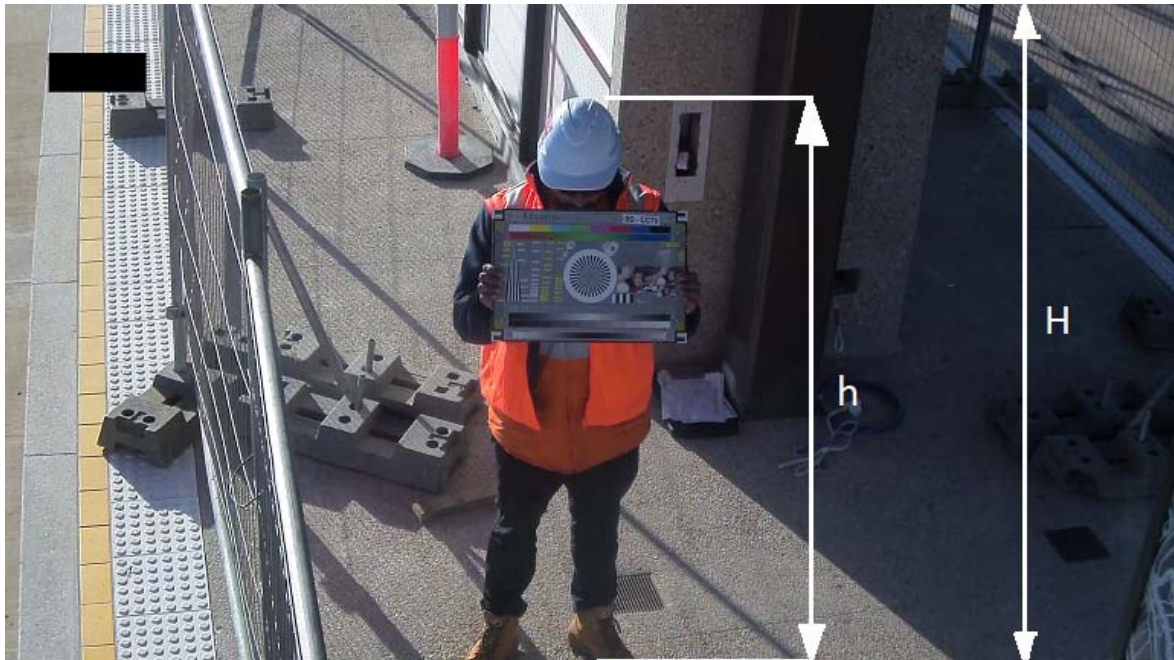

Figure 3: CCTV camera view snapshot
4. Analyse the snapshot taken. On the printed snapshot, measure the distance of heights **h** (height of the person, as presented on the screen) and **H** (height of the total camera view). Then, calculate the **h / H** ratio. For the figure 3 example, the **h / H** ratio is about **0.85**. Total number of vertical pixels on the used resolution (1920x1080) is 1080. The vertical pixels that are allocated to the height of the person are: $0.85 \times 1080 = 918$.